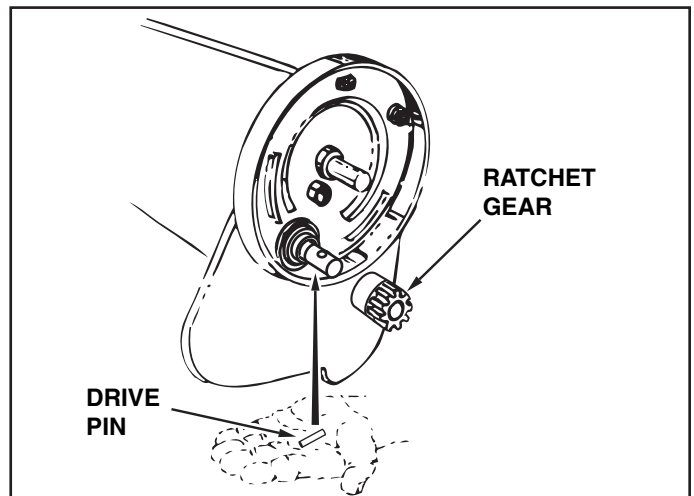

FIGURE 27
- Slide the gear off of the brush shaft. (Look for the drive pin, which may fall out of the brush shaft when the ratchet gear is removed.) See figure 27.